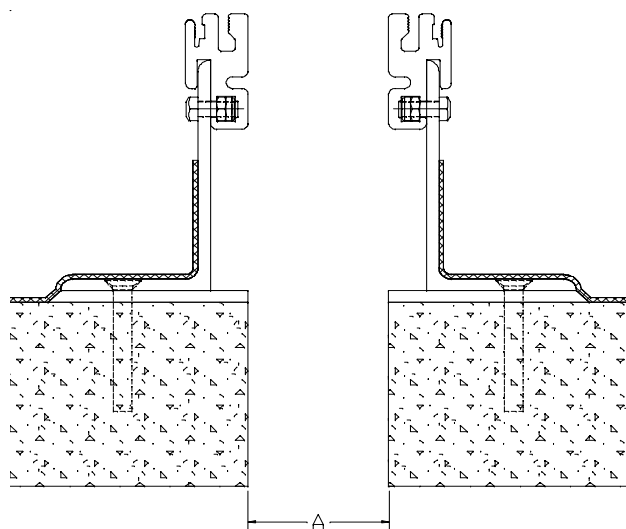

Figure 5
**STEP 6.** Install the deck waterproofing material, by others, along the concrete slab and the side of the Base Members (see Figure 5). Install the deck waterproofing material in accordance with the Deck Waterproofing Manufacturer's instructions.